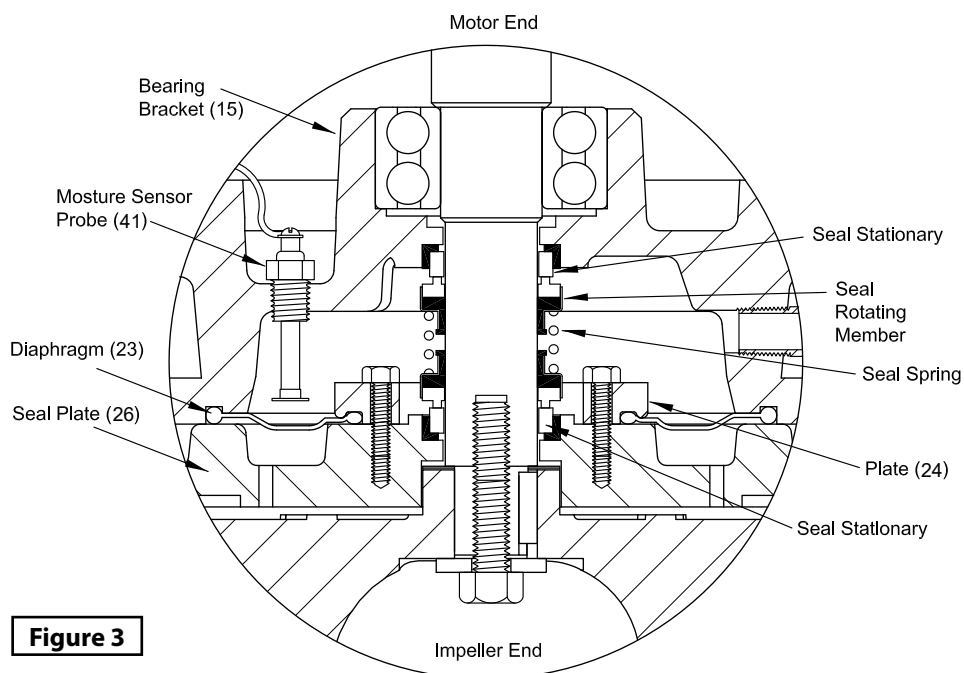

Figure 3
Seal/Diaphragm - (See Figure 3) Clean and oil seal cavities in bearing bracket (15) and seal Plate (24). Lightly oil (**Do not use grease**) outer surface of inboard and outboard stationary members of seal (19). Press inboard stationary member firmly into bearing bracket (15) and outboard stationary into seal plate (24), using a seal pusher tool. Nothing but the seal pusher tool is to come in contact with seal face.